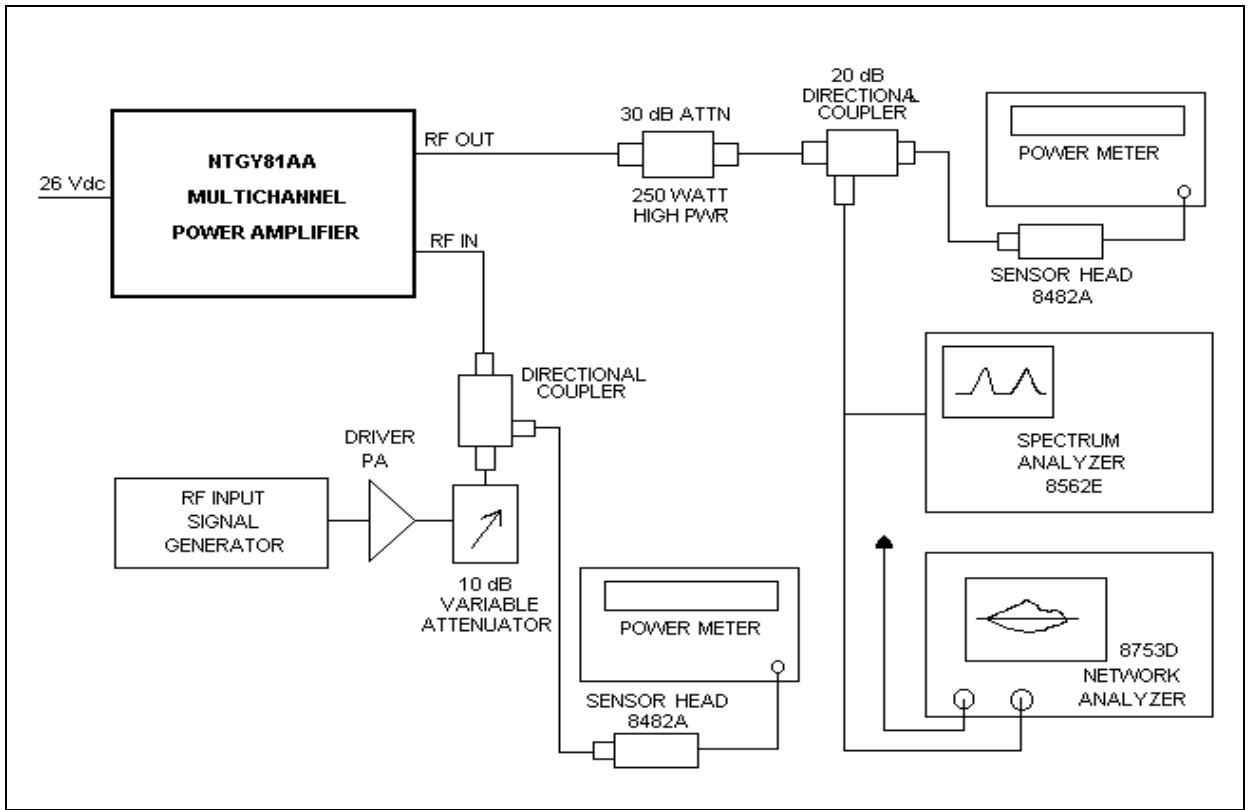

Figure 5-1. NTGY81AC Amplifier Test Setup Diagram
Performance testing should be conducted every 12 months to ensure that the amplifier system meets the operational specifications listed in table 5-3. Also verify system performance after any amplifier module is replaced in the field. The test equipment required to perform the testing is listed in table 5-2, and the test setup is shown in figure 5-1.
1. Connect test equipment as shown in figure 5-1.